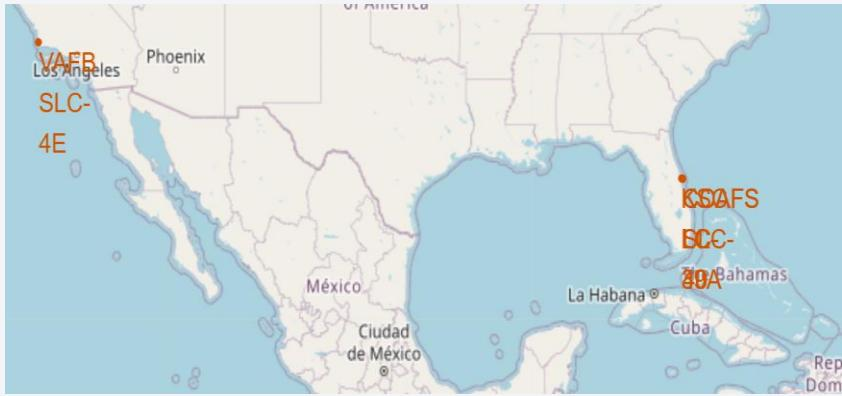
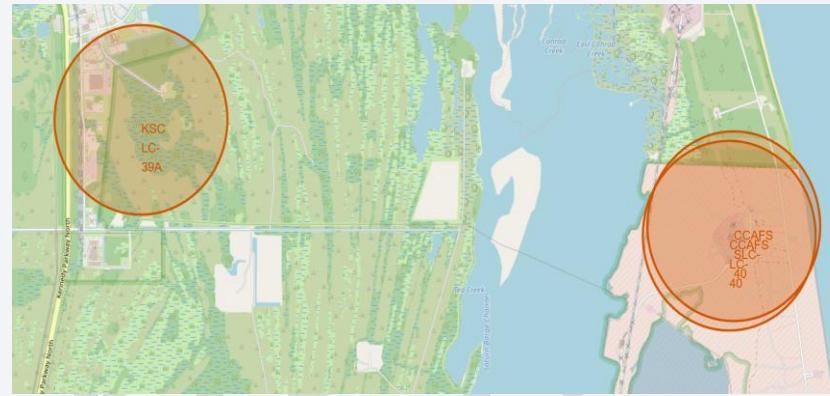
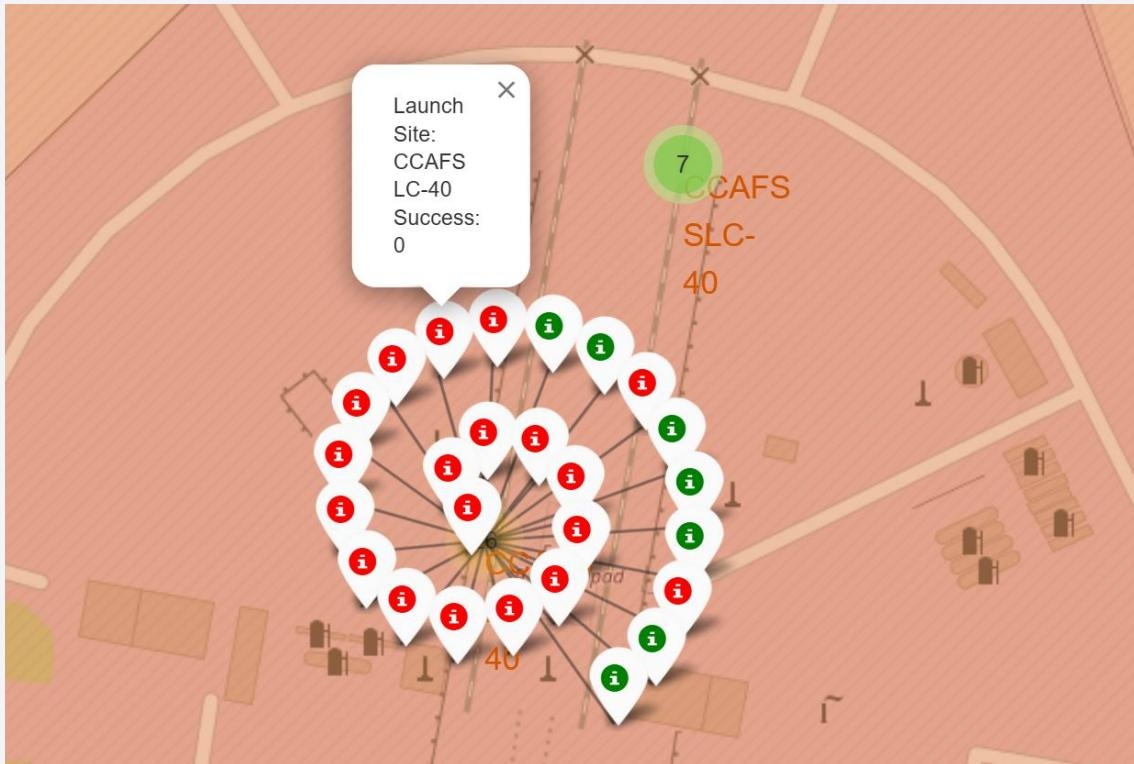

Figure 1.1
Figure 1.2
Figure 1.3
- Figure 1.1 shows the folium map of the Launch Sites represented by red circle markers. The red circles are positioned based on the Launch Site's coordinates. Text labels were also included to identify the name of each site.
- Figure 1.2 shows the zoomed-in overlapping Launch Sites of Figure 1.1. Here you can see that there are 3 Launch Sites with KSC-LC-39A on the left and another overlapping Launch Sites on the right.
- Figure 1.3 shows CCAFS-SLC-40 and CCAFS-LC-40 Launch Sites that are overlapping in Figure 1.2.